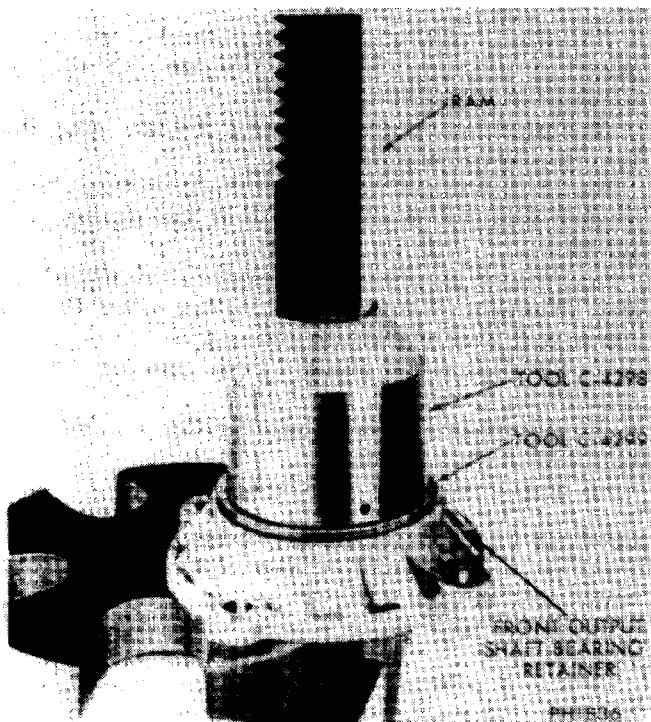

Fig. 21—Pressing in Front Output Shaft Seal
(1) Remove front output shaft yoke lock nut, washer and rubber seal. Tap or pry yoke off shaft.
(2) Pry seal out of retainer bore.
(3) Clean and inspect retainer.
(4) Apply sealer to outer diameter of new seal.
(5) Position seal on retainer bore. Using tools C-4299 and C-4300 install seal in retainer (Fig. 21).